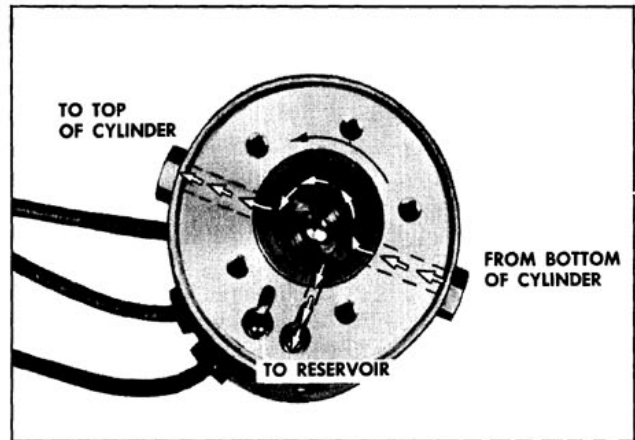

Fig. 16-155 Pump Operation to Lower Top
2. Lowering the Top. When the green motor lead is energized, the motor drive shaft turns the rotors counterclockwise as indicated by the large arrow in Fig. 16-155. The action of the pump rotors forces the fluid under pressure to the top of each cylinder. This action causes the fluid below the piston in each cylinder to be forced into the pump which recirculates the fluid to the top of each cylinder. The surplus hydraulic fluid due to piston rod displacement flows into the reservoir.